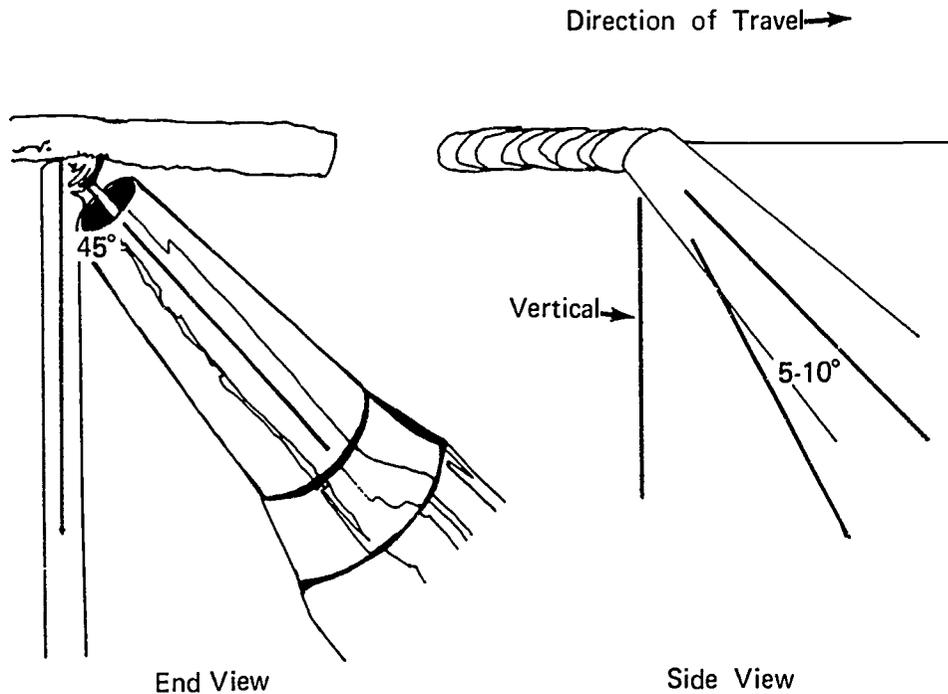

FIGURE 4
- F. Position gun at a 45° side angle and 5° - 10° in direction of travel (Figure 4)